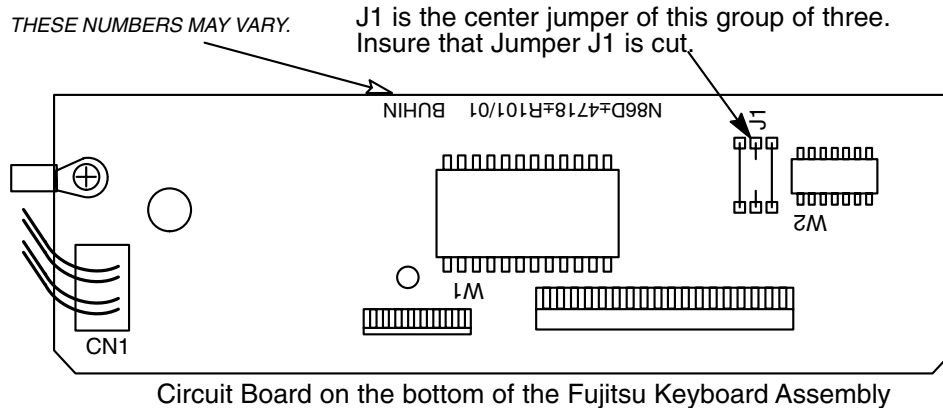

Figure 8-56 Fujitsu Keyboard Assembly Circuit Board
- 11.) Check jumper J1. Refer to Figure 8-56. If J1 is not cut use a pair of wire cutters and cut Jumper labeled 'J1' on the circuit board attached to the bottom of the Fujitsu Keyboard.